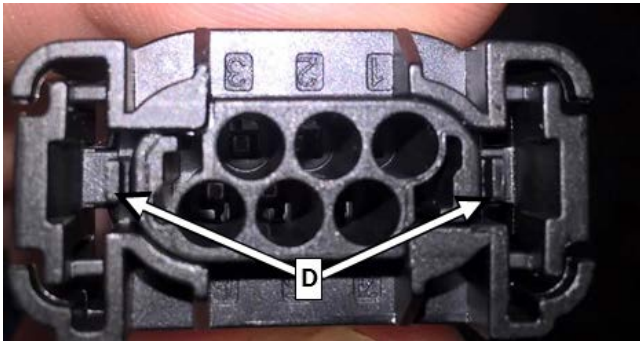

Figure 3
5. Press the retaining lugs (D, Figure 3) outwards then pull plug housing (B, Figure 2) out of harness housing (C, Figure 2).
**Caution!** Be careful not to break retaining lugs (D).